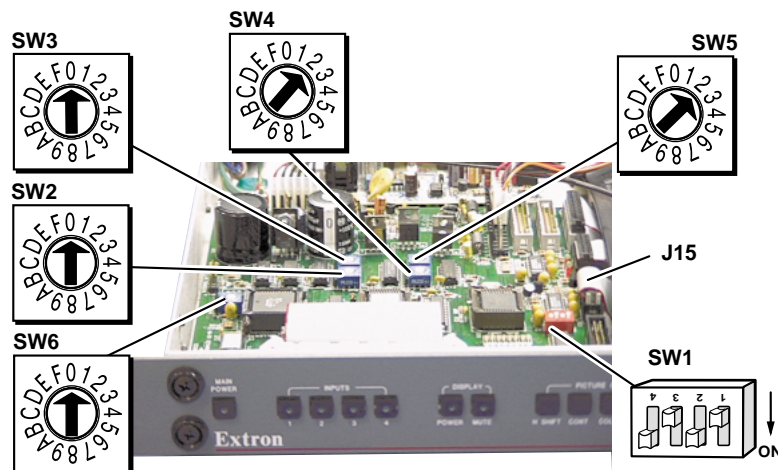

Figure 2-5. Example of Setup Switches on the Main Controller Board
1. If you are not sure if the System 4*x*i is set for your projector/monitor, use the Front Panel to select the Information Menu (#8), and then display the System 4*x*i settings (see page 3-10). A general example is shown to the left. Refer to Figure 2-5 below as an example only to locate the switches and projector cable. Configuration information is located on a label inside the System 4*x*i top cover. If the projector cable is on the wrong connector, or if DIP switches (1-4) are incorrect, this error will not be seen in Menu 8.